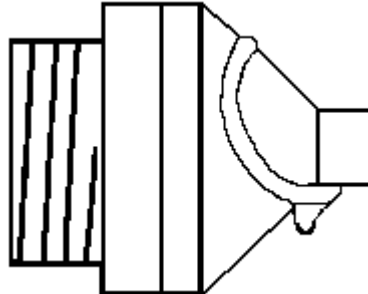

FIGURE 15. M65 TIME SERIES
(1) Time, M65 Series Fuze. (Figure 15.)